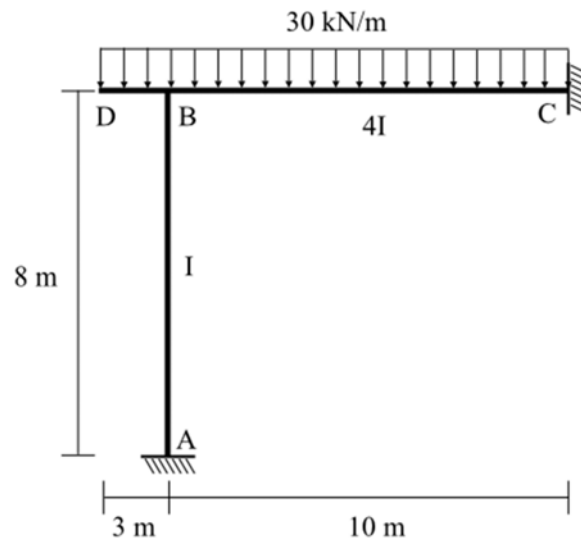

Figure 3 / Rajah 3
3. **Figure 3** shows a frame carrying a uniformly distributed load of 30 kN/m for member DBC, with overhang portion DB. Supports A and C are fixed. The flexural rigidity of member DBC and AB are 4I and I, respectively. E is constant for the frame.